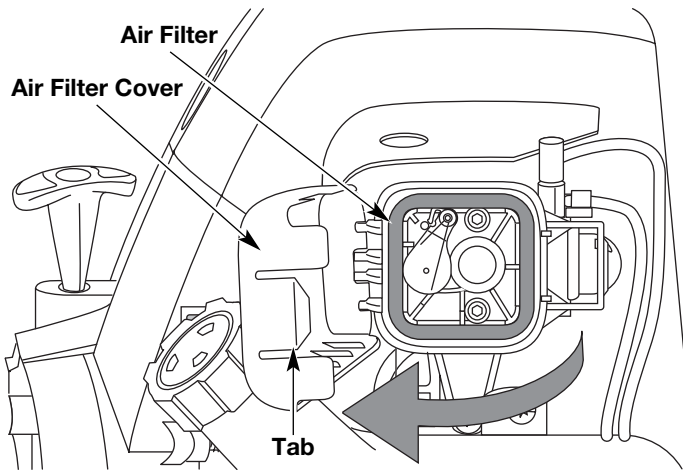

Figure 30
1. Open the air filter cover. Push the tab on the right side of the cover inward. Then pull the air filter cover out and to the left. See Figure 30.
2. Remove the air filter. See Figure 30.
8. Swing the cover to the right until the tab on the air filter cover snaps into place in the slot on the back plate. See Figure 30.